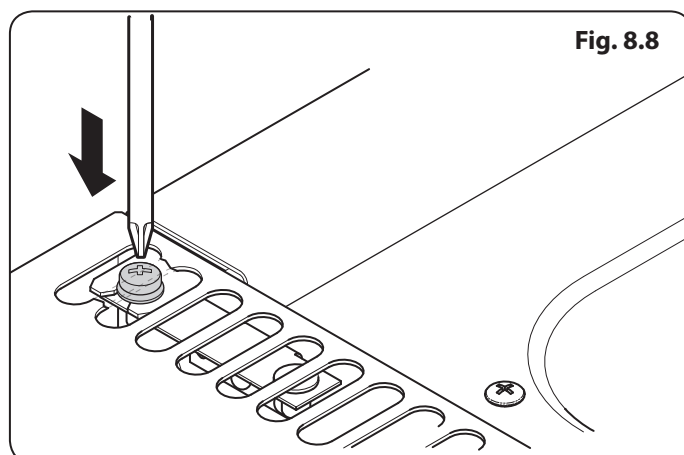

Fig. 8.8
1. Loosen the screw in the flue vent (**Fig. 8.8**).
4. Check everything is firmly connected and tighten the screw in the flue vent to secure the side panel in position (**Fig. 8.8**).